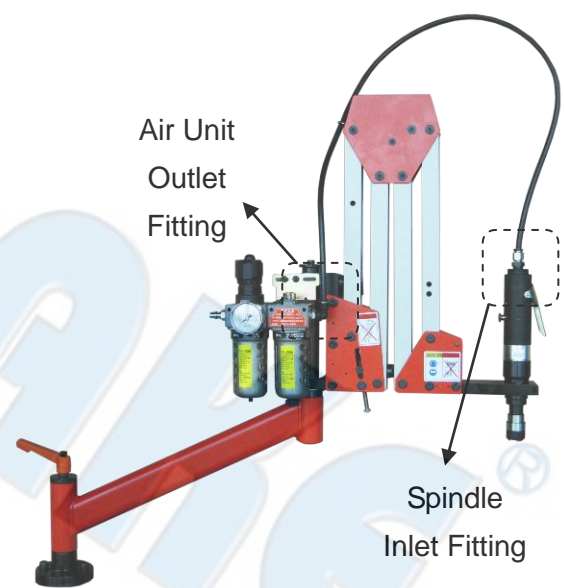

Figure 7-9
- (1) Attach air hose into outlet fitting of air unit and inlet fitting of spindle (see Figure 7-9).
- (2) Press hose firmly into fittings. Fitting are spring loaded. Hose can be removed by depressing lip of fitting.